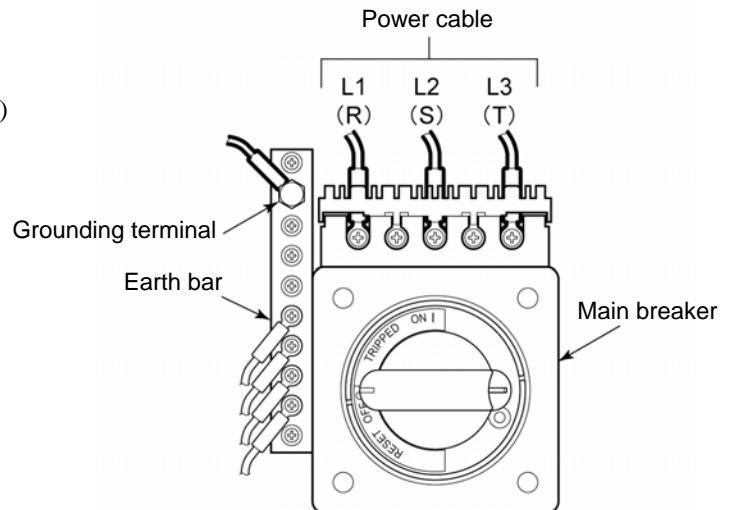

Figure 3-10 Connection of Power Cable and Grounding Terminal
- Secure the piping connector section with a pipe wrench, and provide proper tightening to the pipe. See Figure 3-10 on page 3-13.